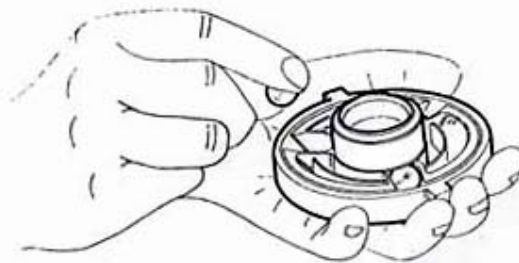

Fig. 7
- Take the sliding cheek (the hub turned upwards). Install the ball cage and insert the balls in the recesses (fig. 7).